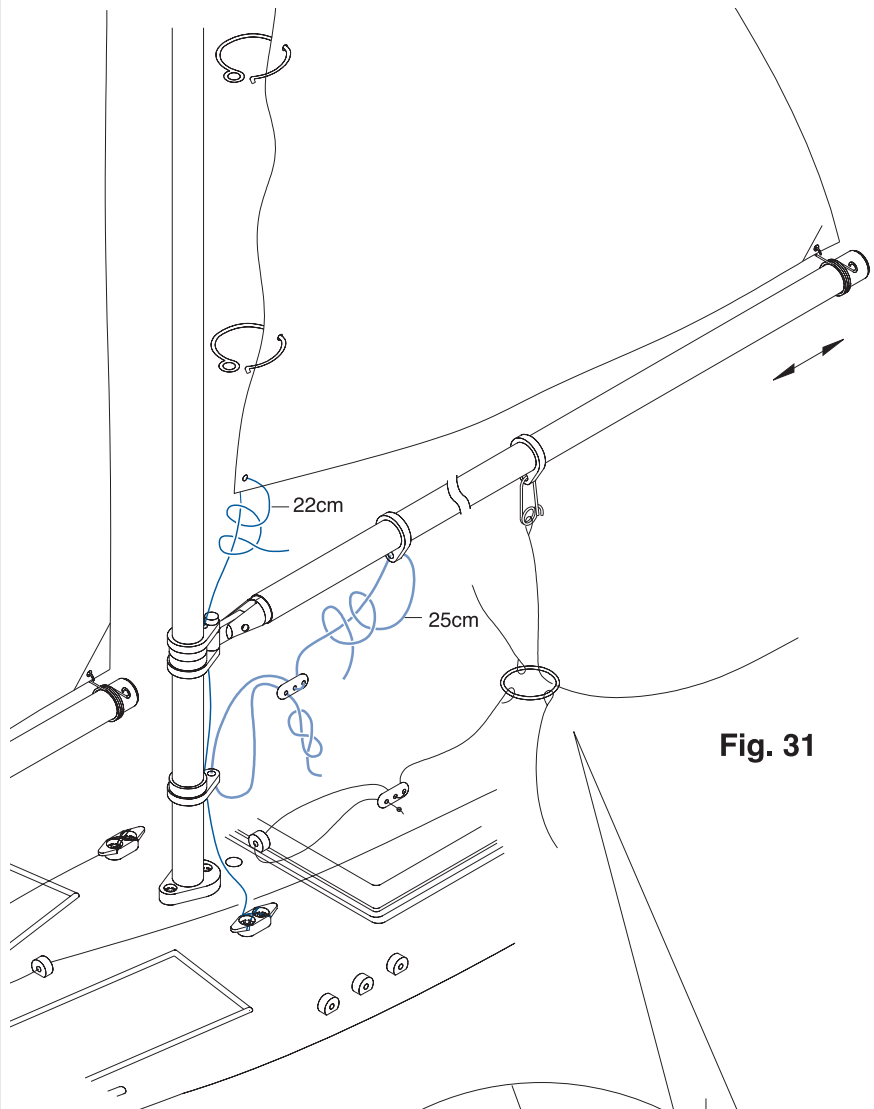

Fig. 31
2. Cut a piece of rigging line to length of 8.5"(22cm). Attach one end to the main sail using "TYPE B" knot. Thread the line through the gooseneck fittings, lower master fitting, and onto a cleat as shown in Fig. 31.
3. Cut a piece of rigging line to a length of 9.8"(25cm). Attach one end to the forward main boom ring and secure with a "TYPE B" knot. Thread the other end through a line adjuster, the lower master fitting, and back through the line adjuster, ending the line with a "TYPE A" knot. Refer to Fig. 31.